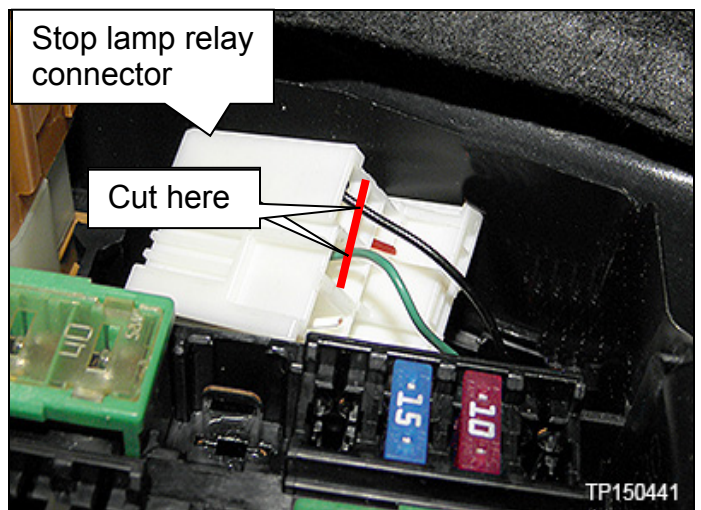

Figure 11
11. Cut the remaining two wires (green and black; Figure 11) to the stop lamp relay connector, and discard the connector.